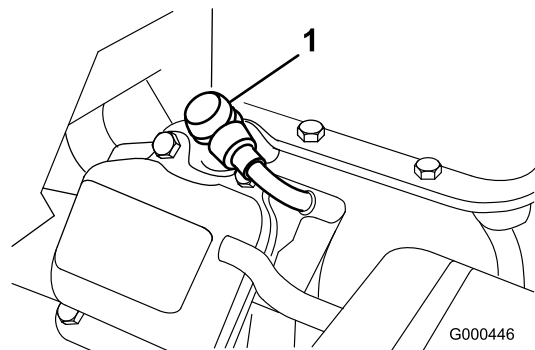

Figure 26
1. Pull molded wire off spark plug (Figure 26).